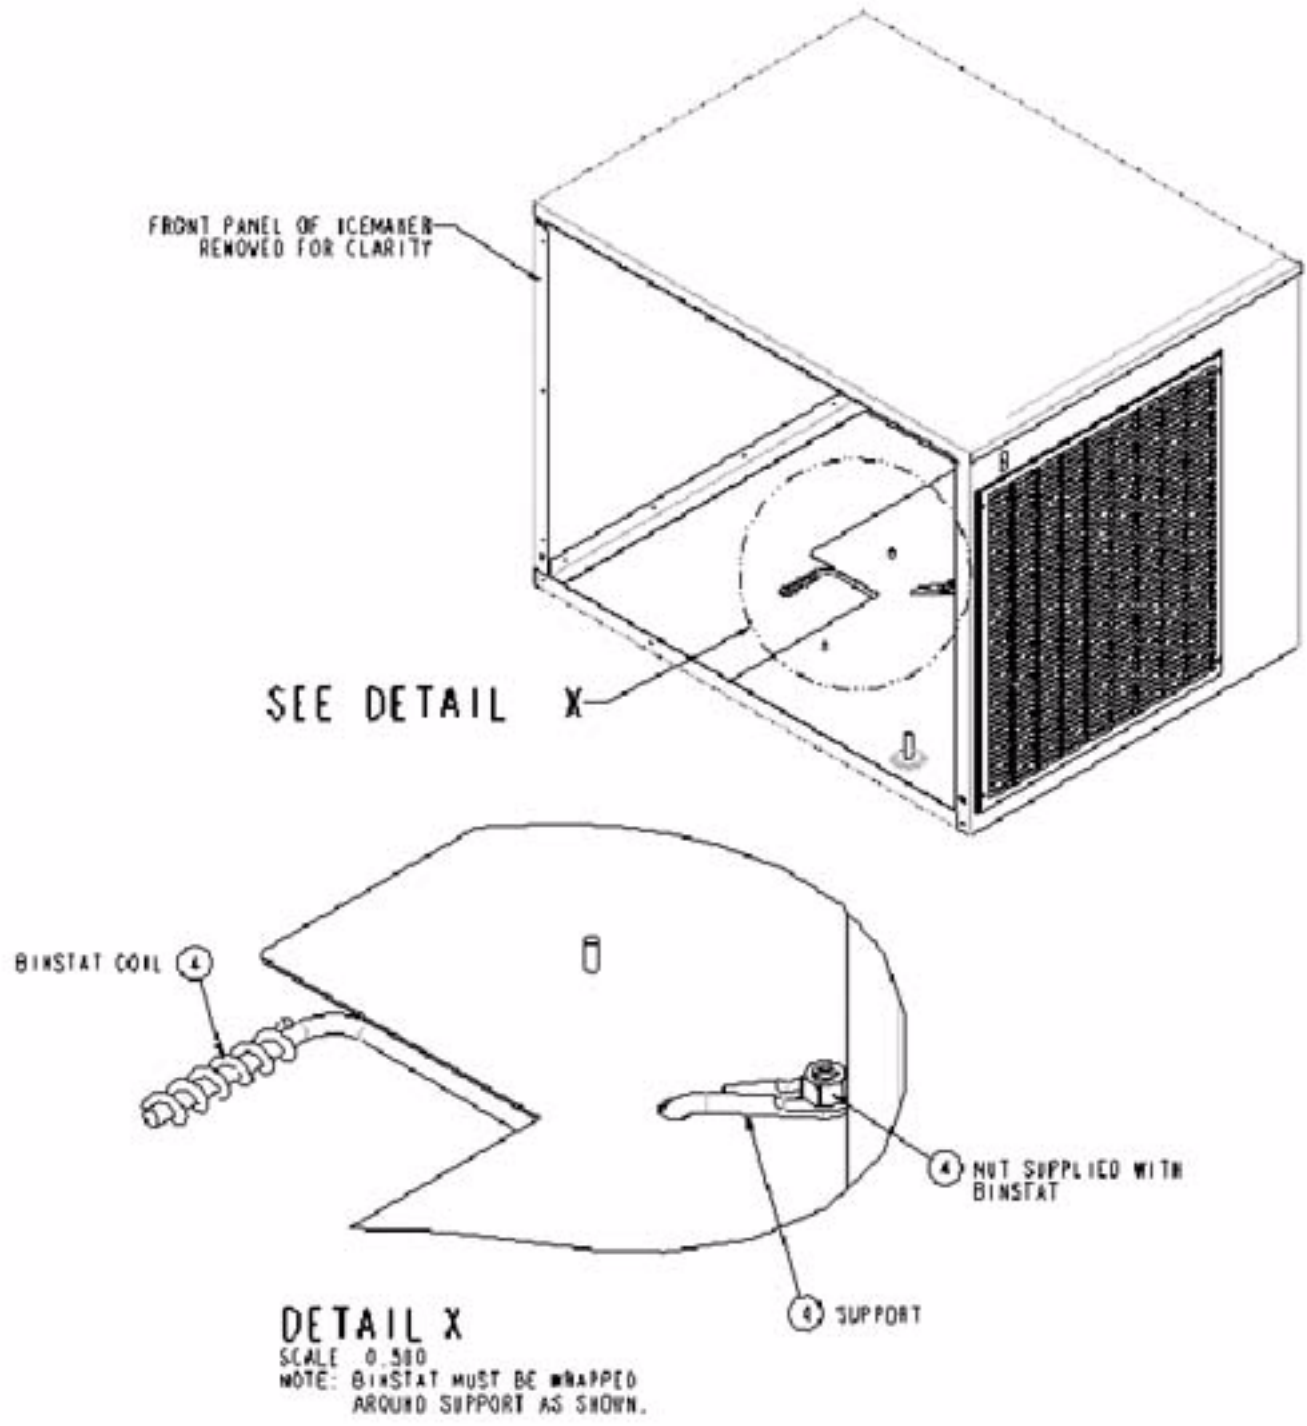

FIGURE 3. BINSTAT LOCATION
7. Install the brackets (item 5) on either the rear corners or on the back of the ice maker, using the brackets as a template. Use care not to drill into any ice maker components (condenser, tubing, etc.) or into the ice hopper. Be sure to overlap the lid assembly with the brackets, installing screws in both the lid assembly and ice maker.
8. Install the wireform bracket supplied with the bin-stat kit (item 4) through the 5/8" diameter hole in the bottom of the ice maker, wrapping the eye of the wireform over the stud near the hole in the ice maker and secure with the 8-32 nut provided (Figure 3). Feed the bin-stat cap tube through the hole to the end of the wireform bracket and wrap the tube around the end of the bracket several times, insuring that the tube is secure.